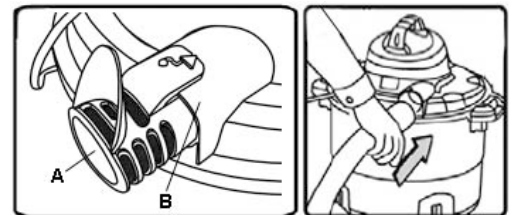

Figure 15
This vacuum can be used as a powerful blower. To use the blower feature, remove the noise diffuser (A) Fig.15 from the blower outlet (B). Disconnect the flex hose from the front of the vacuum and reconnect it to the blower outlet. Turn the vacuum On, your vacuum is now a blower to clear work tables of debris, blow leaves etc...